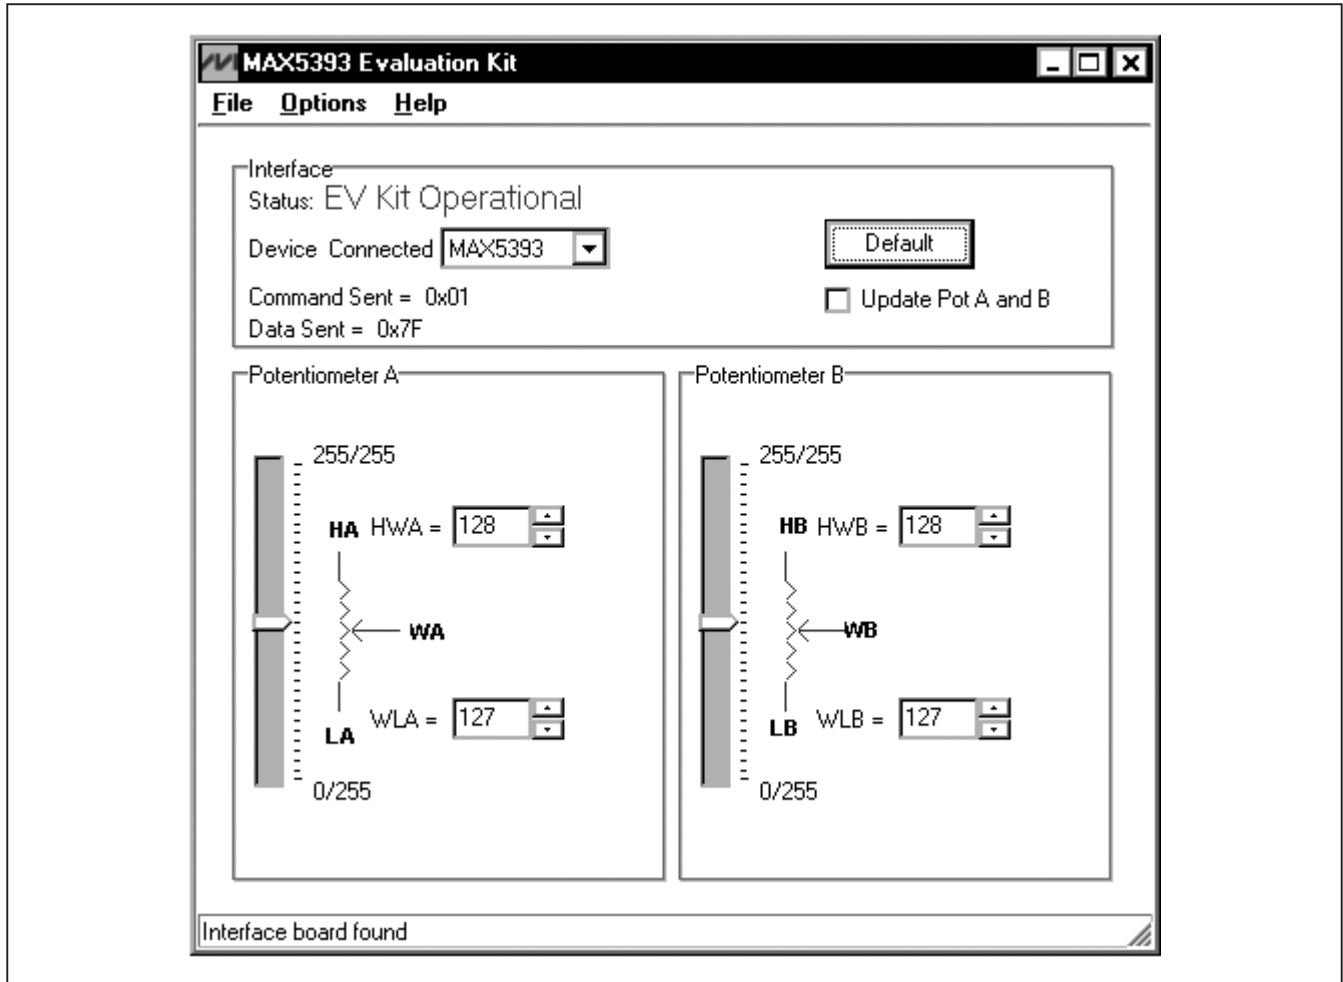

Figure 1. MAX5393 Evaluation Kit Software Main Window
- 10) Using the **Device Connected** combo box, select **MAX5393** from the list and then press the **Default** button. The EV kit software main window appears, as shown in Figure 1.
The MAX5393 EV kit software GUI shown in Figure 1 is a Windows program that provides a convenient means to control the MAX5393 dual potentiometer. Use the mouse or press the Tab key to navigate through the GUI controls. The correct SPI write operations are generated to update the MAX5393 internal memory registers when any of these controls are executed.
There are two methods for communicating with the EV kit, through the normal user-interface panel (Figure 1) or through the SPI commands available by selecting